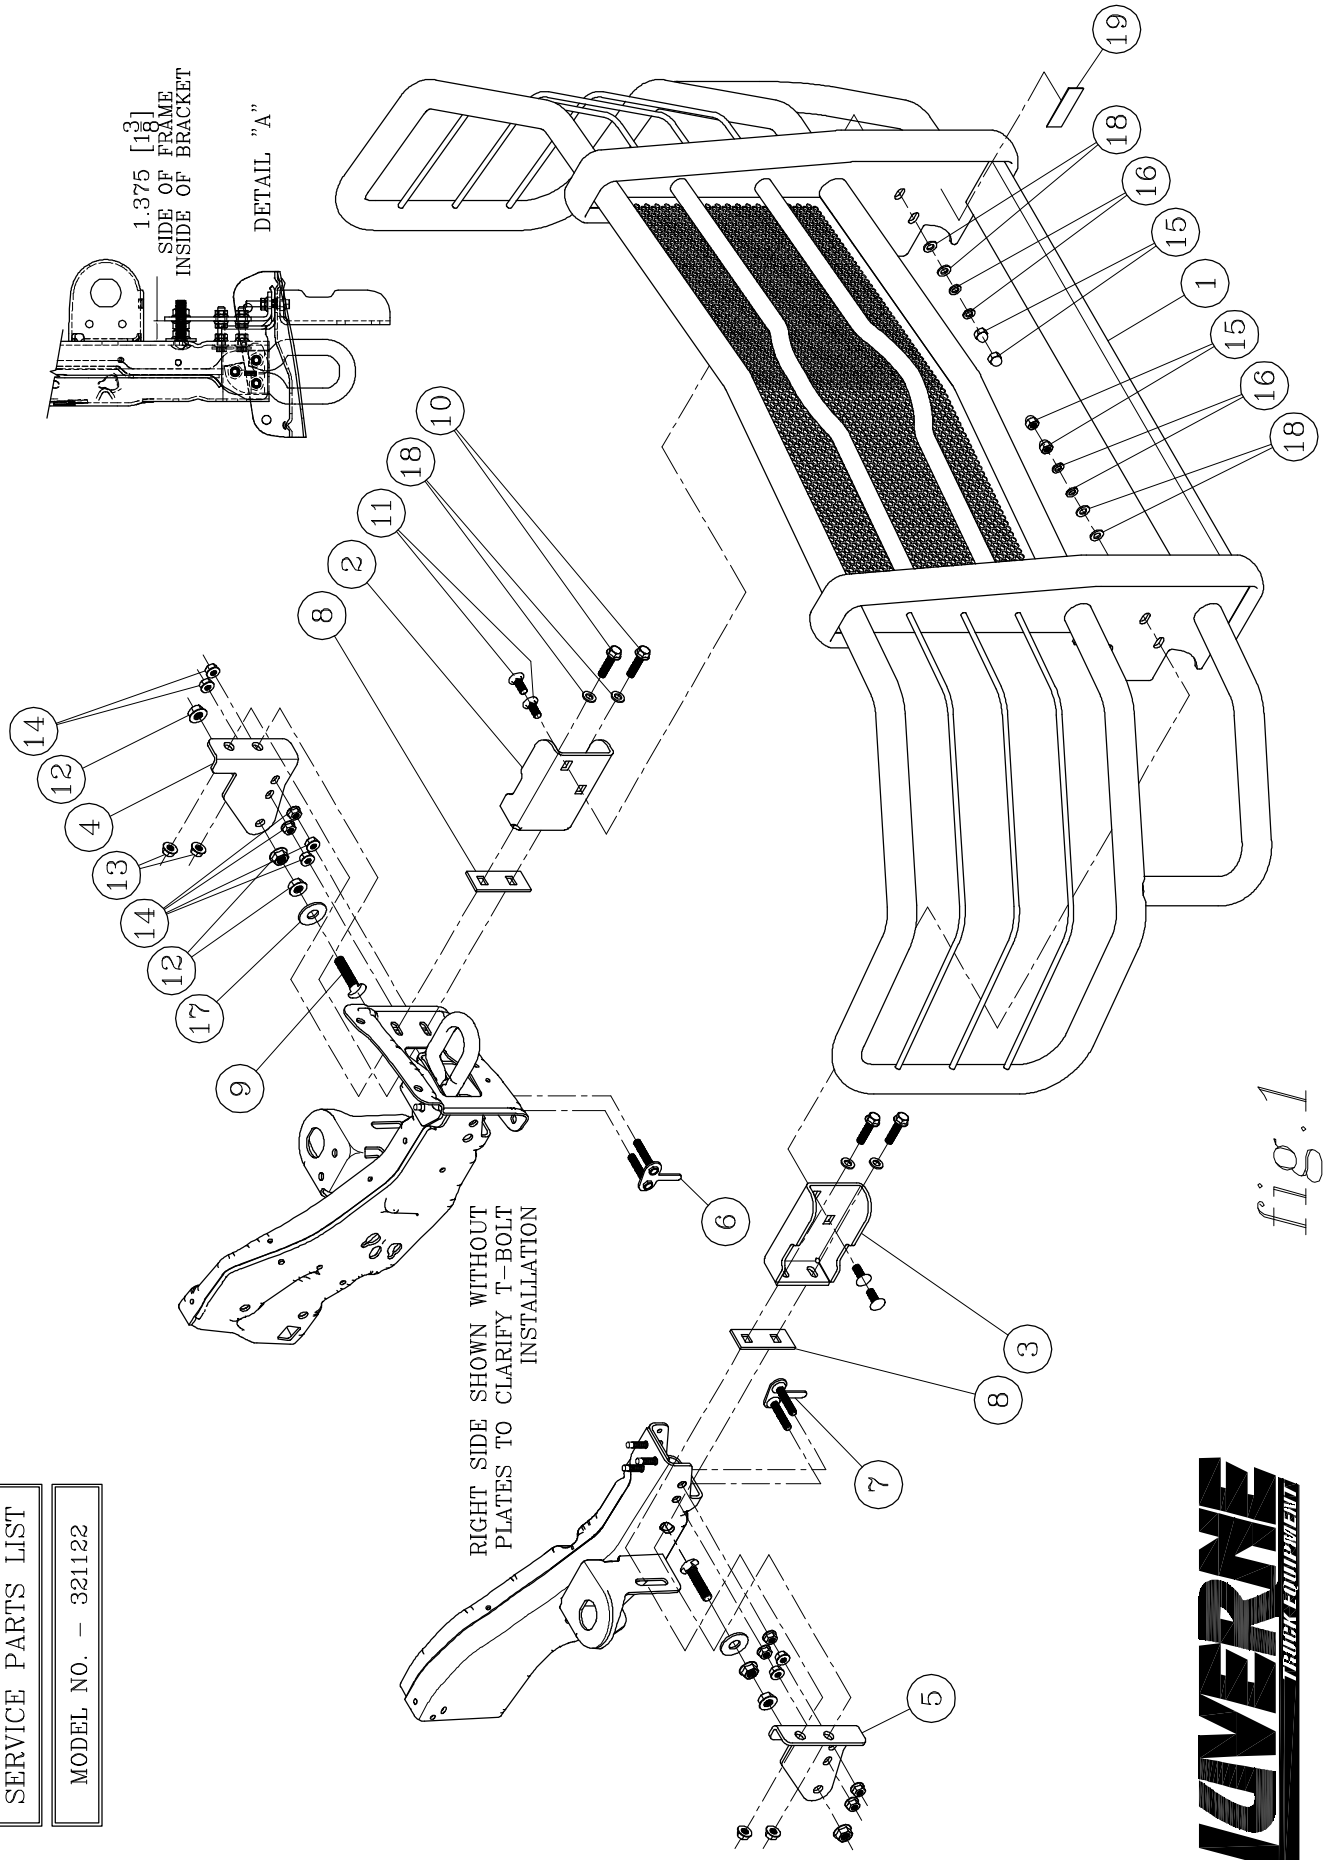

fig.1
9. INSERT THE ASSEMBLED MOUNTING BRACKET INTO THE HOLES IN THE FRAME AND FASTEN WITH 1/2"-13 SERRATED FLANGE NUTS (ITEM #13) AS SHOWN IN **fig. 1**. HAND TIGHTEN ONLY AT THIS TIME.